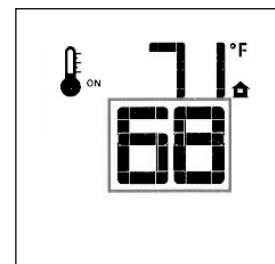

Figure 16.15. Change Set Temperature.
- To adjust the Set Temperature, press the Up or Down Arrow Keys until the desired Set Temperature is displayed. Fig. 16.15.